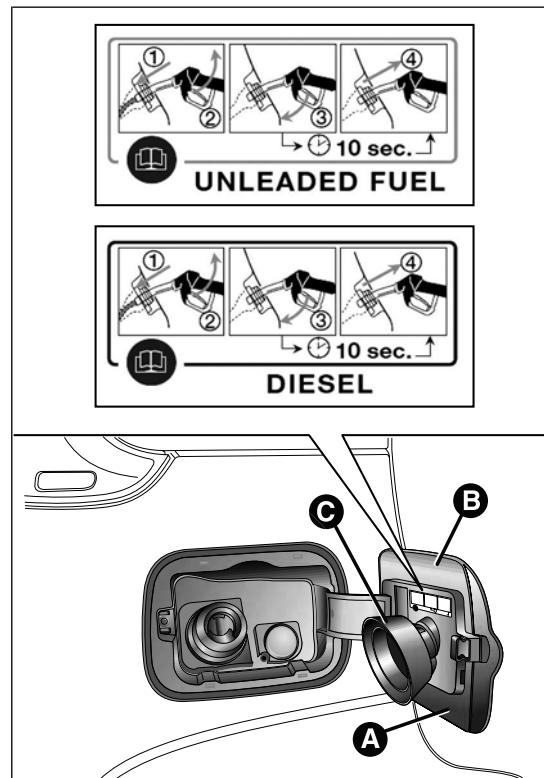

fig. 79
The refuelling procedure described below is illustrated on label B fig. 79, which is applied inside the fuel flap. The label also indicates the fuel type (UNLEADED FUEL=petrol, DIESEL=diesel fuel).
- ☐ open the flap A fig. 79 pulling it outwards;
Flap A fig. 79 is provided with a dust cowl C which prevents deposits of impurities and dust at the end of the filler when the flap is closed.